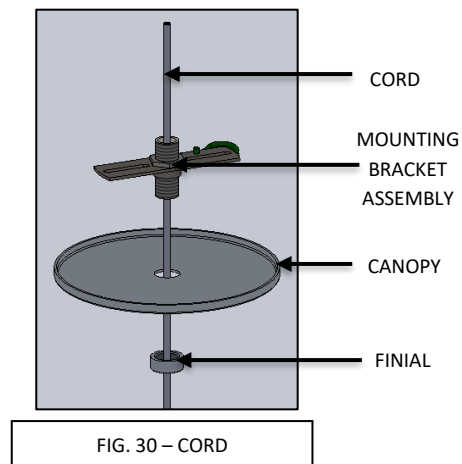

FIG. 30 - CORD
23. INSERT CORD into CANOPY FINIAL (THREADS UP), CANOPY and MOUNTING BRACKET as shown in FIG. 30 and adjust fixture drop to desired height.